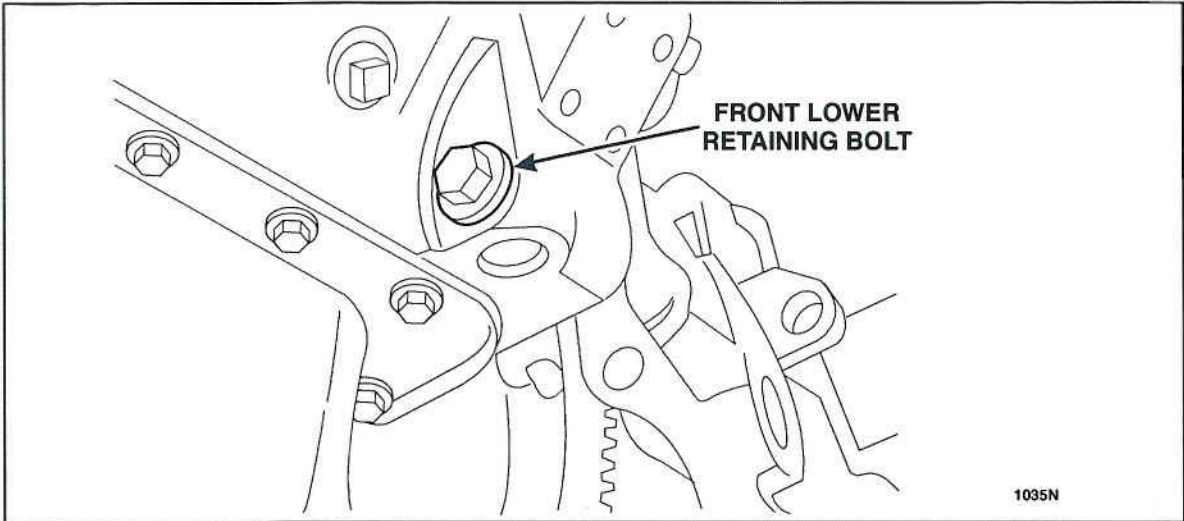

FIGURE 23
51. Remove the front lower retaining bolt. See Figure 23.
9. Install the front lower retaining bolt. See Figure 23.